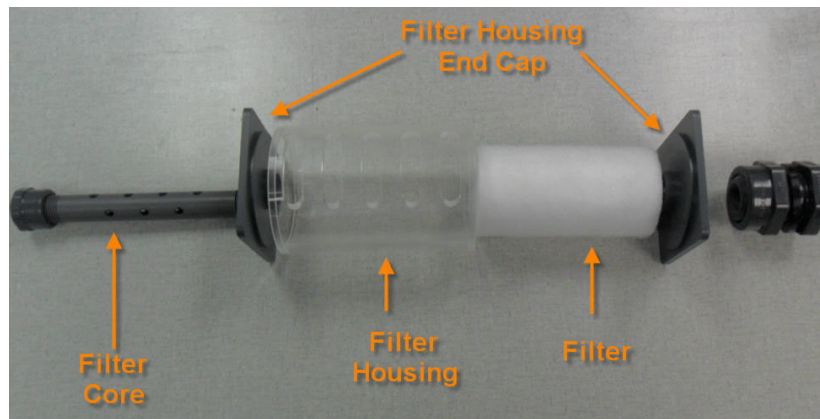

Figure 9-2
1. Unscrew the filter core assembly and remove it from the tank along with the filter, filter element, and filter housing end caps (see figure 9-2).